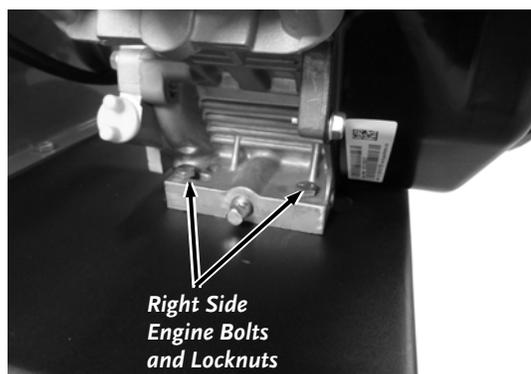

Figure 17
4. Loosen the two right side Engine Mount Bolts and Locknuts using two 1/2" Wrenches (**Figure 17**).